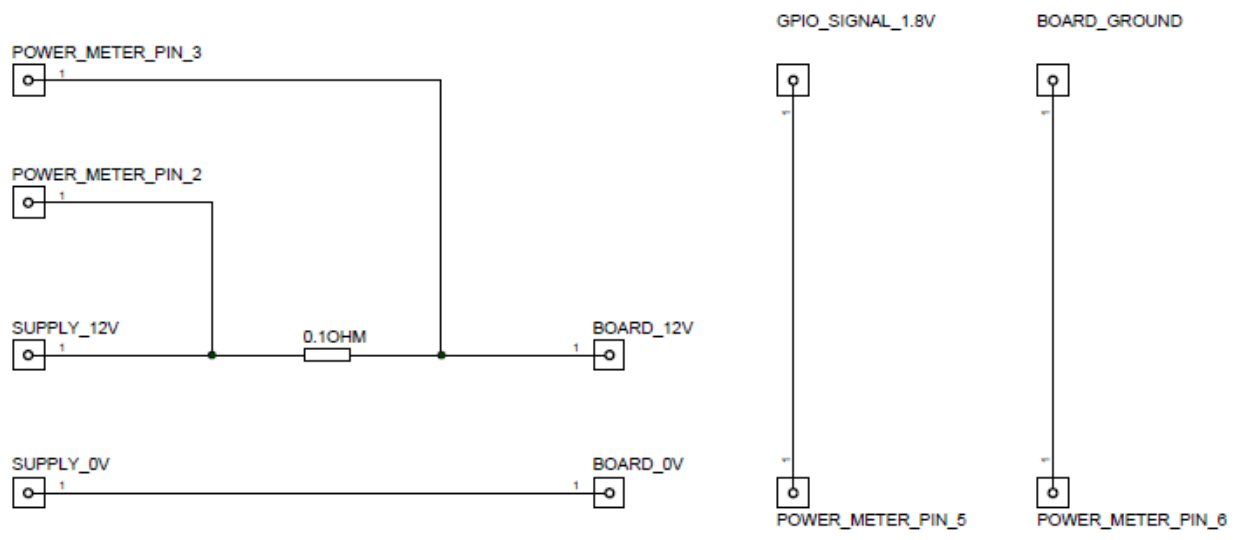

Figure 2: High level view of the circuit used to measure energy
**4) System Assembly:** The schematic of the physical circuit is shown in the Figure 2. This is a very simple circuit, where there are only one electronic component: a 0.1Ω 5W resistor. Analyzing this figure, we can notice that: SUPPLY\_0V must be linked to BOARD\_0V; SUPPLY\_12V and POWER\_METER\_PIN\_2 must be linked to one edge of the resistor; and in the other edge, must be linked BOARD\_12V and POWER\_METER\_PIN\_3. Besides, to control the pulse signal, the power meter channel 2 must be linked to the board: POWER\_METER\_PIN\_5 must be linked to GPIO\_SIGNAL\_1.8V (J3A2, pin 55); and POWER\_METER\_PIN\_6 must be linked to BOARD\_GROUND (J3A1, pin 2).